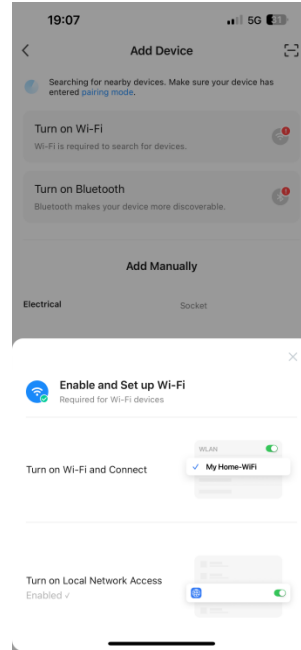

Fig.3
- 3.3. Tap Turn on Wi-Fi or Turn on Bluetooth to enable Wi-Fi or Bluetooth as instructed. (Fig.3, 4)